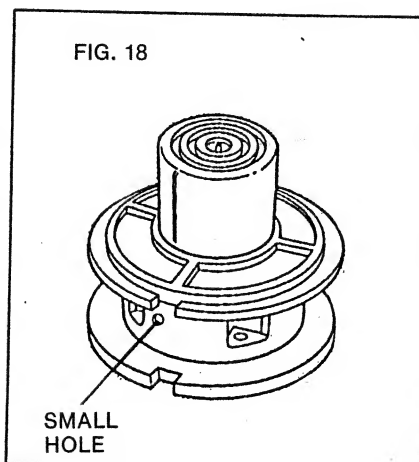

FIG. 18
- a. Locate, on the empty spool, one of the two small holes shown in Figure 18.